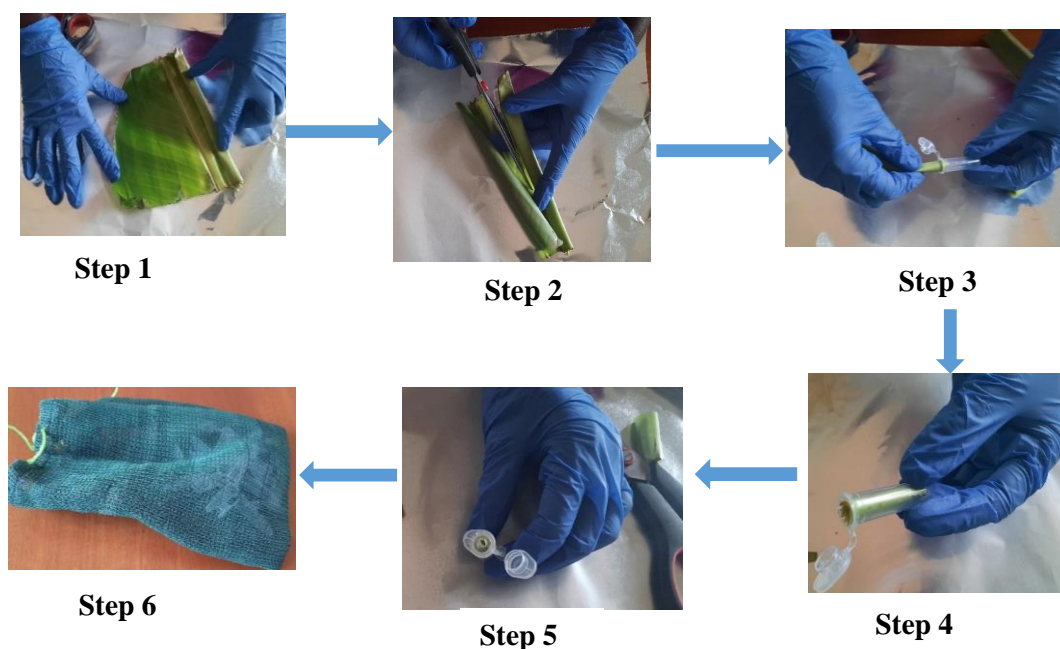

Figure 2: A stepwise process of sample preparation for leaf archiving.
- Get a fresh leaf sample (cigar leaf), cut off the browning ends of the leaf sample, unroll it halfway (Figure 2, step 1).
N.B: Always sterilize the pair of scissors before and after cutting each leaf sample (Figure 2, step 2).
- iii. Place the cut rolled leaf into a 2 ml vial and label it with the genotype name using a permanent marker (Figure 2, step 3). It is advised to sample each genotype in duplicate.
- iv. Leave the lid of the 2 ml vial open (Figure 2, step 4).
- v. Cap the leaf sample using a sterilized lid with a hole created in the middle to allow for air exchange (Figure 2, step 5).
- vi. Place leaf samples in 2 ml vials in a mesh bag (Figure 2, step 6).